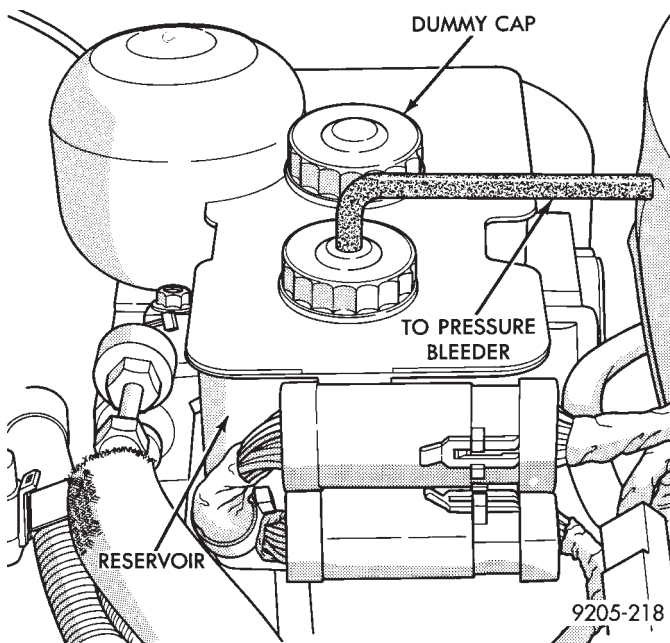

Fig. 2 Pressure Bleeding Brake System
PRESSURE BLEEDING (FIG. 2)
The brake lines may be pressure bled, using a standard diaphragm type pressure bleeder. Only diaphragm type pressure bleeding equipment should be used to prevent air, moisture, and other contaminants from entering the system. The following procedure should be used for pressure bleeding of the master cylinder and wheel circuits (Fig. 2)
(3) Remove both reservoir caps (Fig. 2).
(4) Install pressure bleeder adapter, on front reservoir port and a cap on the rear port of the reservoir (Fig. 2)
(5) Attach bleeding equipment to bleeder adapter (Fig. 2). Charge pressure bleeder to approximately 138 kPa (20 psi).
(6) Connect a transparent hose to the caliper bleed